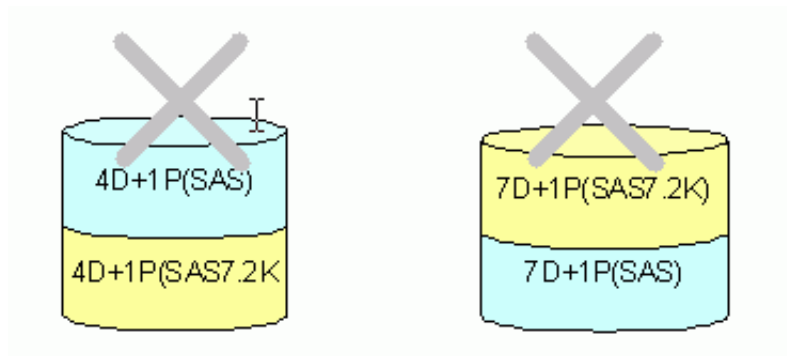

Figure 14-4: Unifying volumes of different drive type not supported
- The volumes created in the RAID group with different drive types cannot be unified, as shown in Figure 14-4 on page 14-7. Unify volumes consisting of drives of the same type.